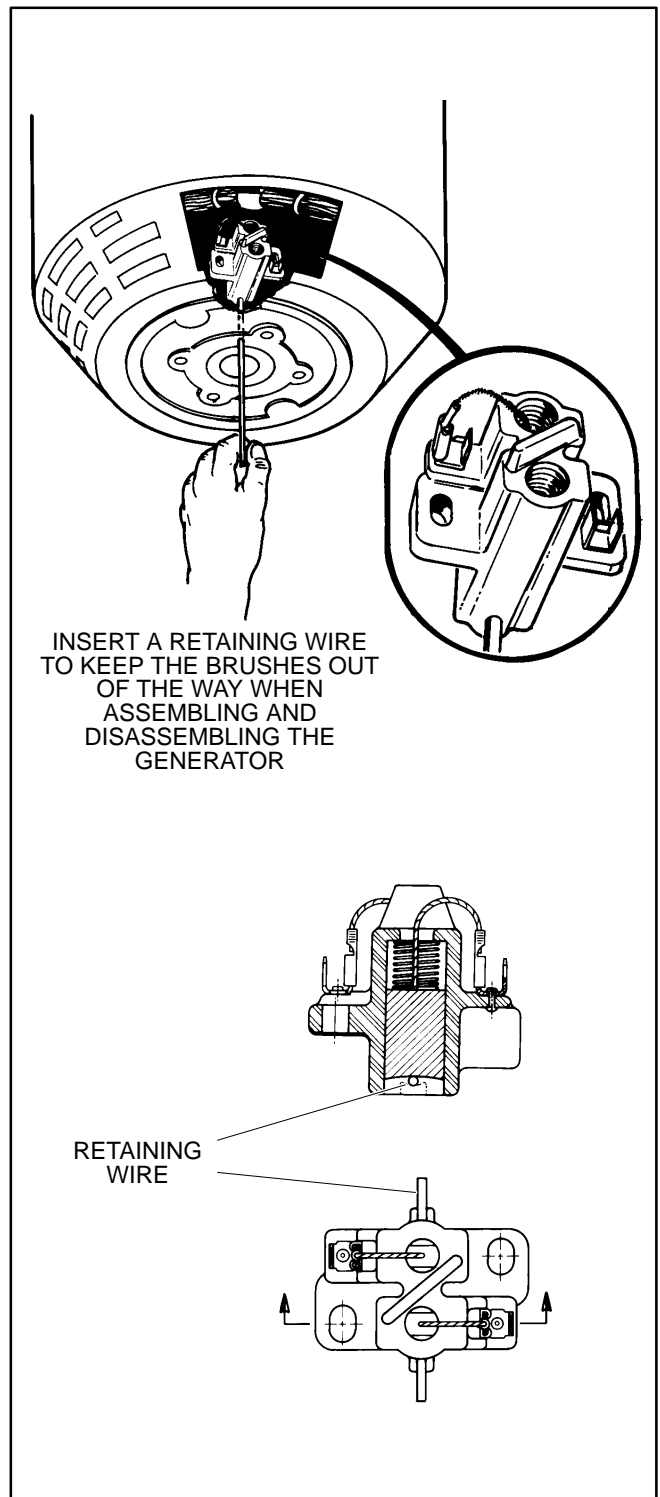

FIGURE 69. BRUSH BLOCK ASSEMBLY
- B. Insert a stiff wire into the small hole in the end of the stator housing to hold the brushes up and out of the way (Figure 69). To do this, first pull both brush pigtails to lift the brushes off the slip rings.